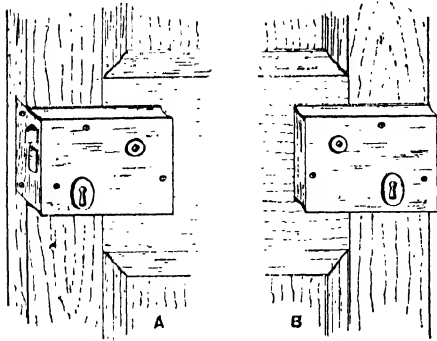
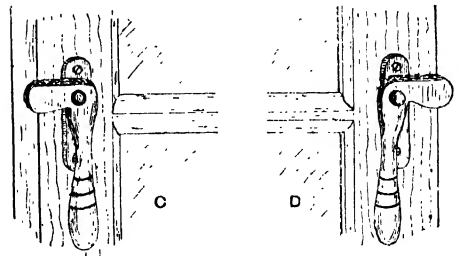

Fig. 435.—Right-hand (A) and Left-hand (B) Locks.
Fig. 436.—Right-hand (C) and Left-hand (D) Casement Fasteners.
**“Handing” of Locks and other Fittings.**—The handing of locks and other ironmongery is apt to be somewhat puzzling. When a joiner is fixing a right-hand rim lock, he fixes it on the left-hand side of the door, and vice versa (see Fig. 435, in which A indicates a right-hand lock on the left-hand side of the door, and B a left-hand lock on the right-hand side of the door). Similarly with casement fasteners, as shown in Fig. 436, where C is right-hand on the left-hand side of the casement, and D left-hand on the right-hand side of the casement. Much has been done by manufacturers to avoid the question of handing. Reversible latch bolts are fitted to locks,